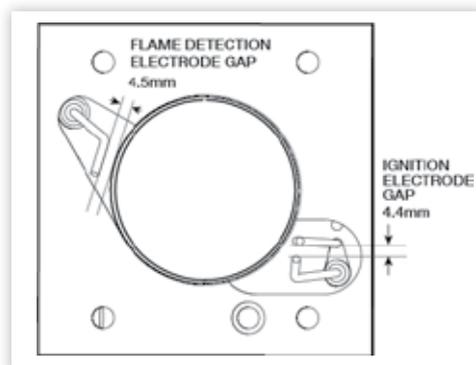

FIGURE 19. ELECTRODE GAPS
- 16.5.1 Refer to section 16.3 and Figure 19.
17.3.3 Release the fan assembly securing screws, slide the fan assembly forwards on the runners and drop down, remove from the heater cabinet. Avoid damaging the fan blades. See Figure 19.